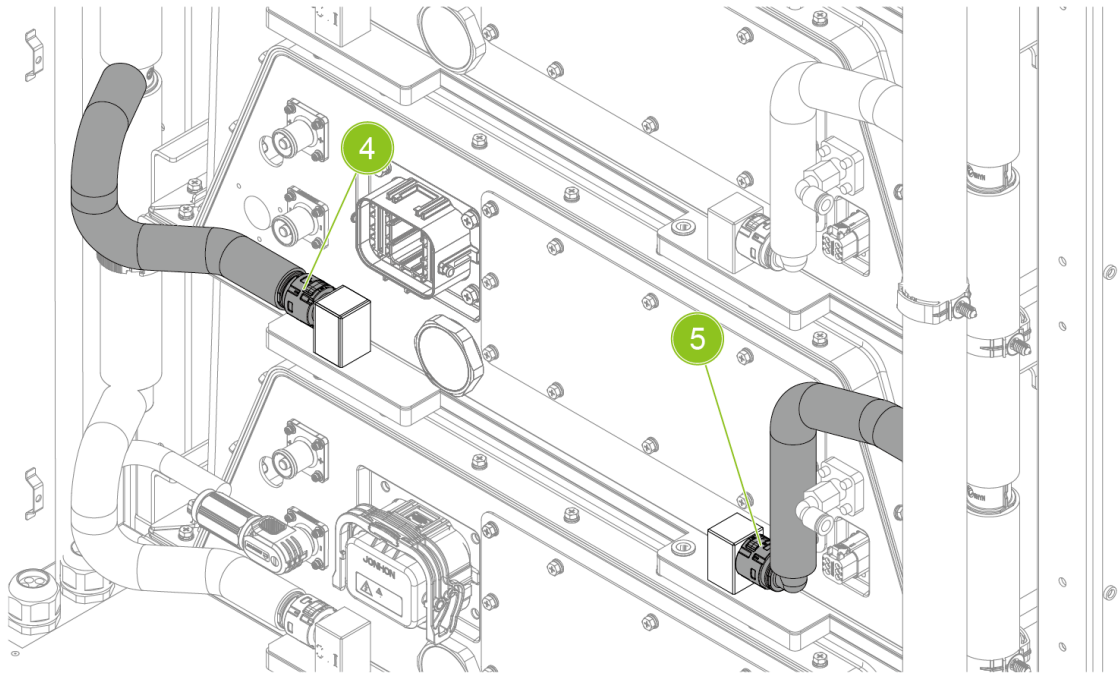

Fig. 9-8 Remove the coolant pipes
3. Connect the external power supply plug of the cooling system, refer to Fig. 9-8 Disconnect the communication cables to find the power supply plug.